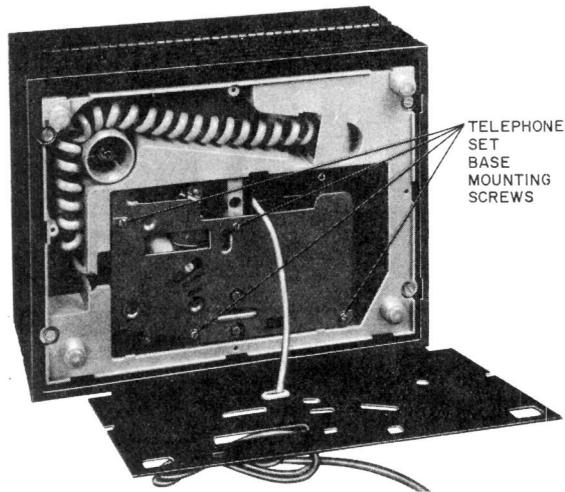
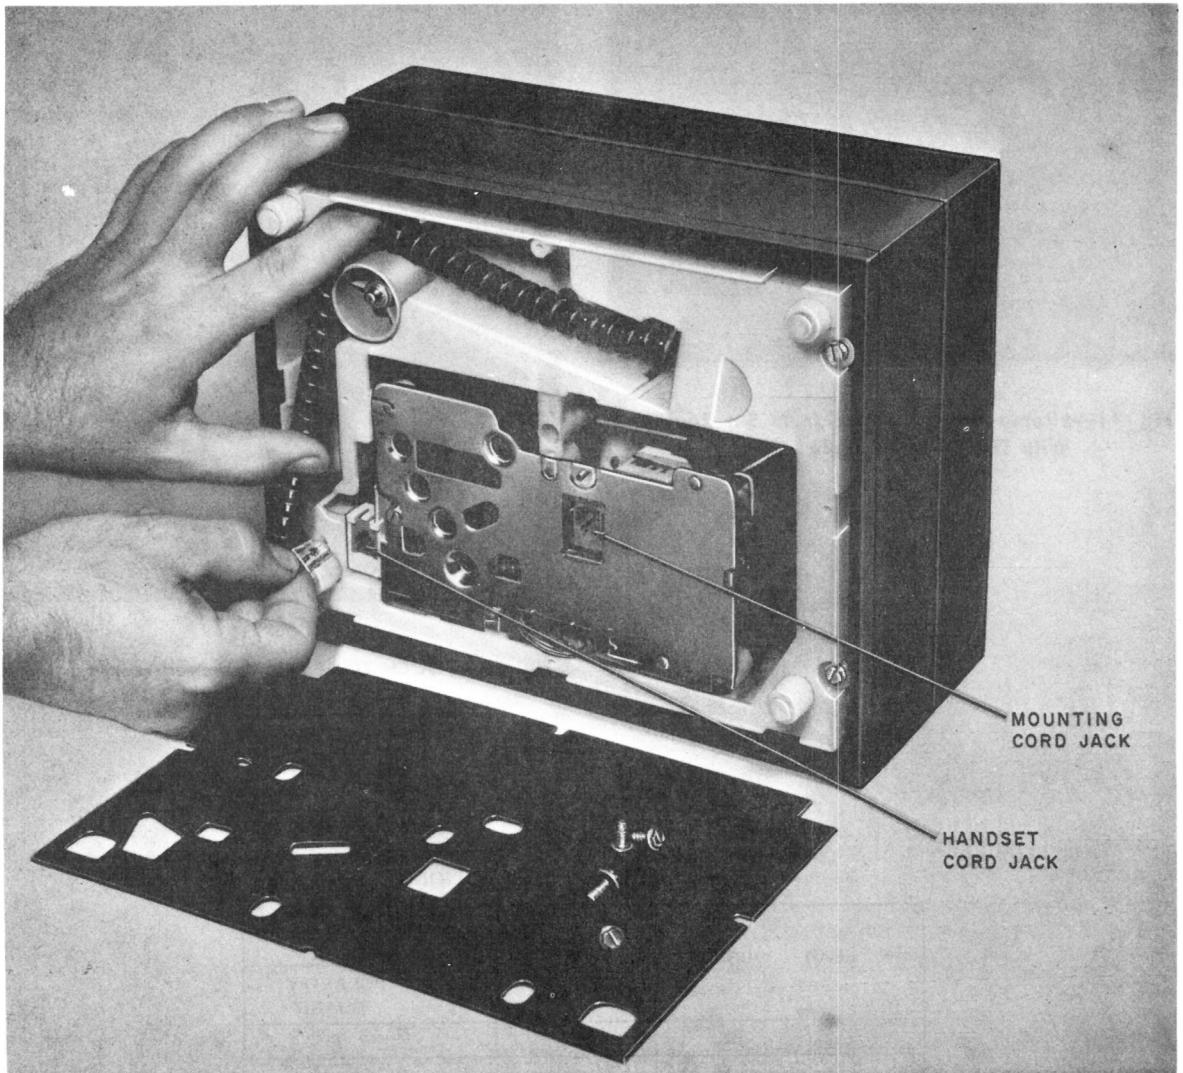
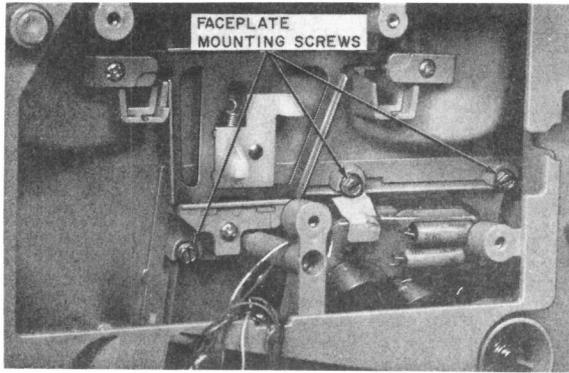

Fig. 8—881A100 or 2881A100 Telephone Set With
Fig. 10—881B100 or 2881B100 Telephone Set With Bottom Cover Removed
Fig. 11—Removing Faceplate from Set Equipped With TOUCH-TONE Dial
- (2) Disconnect base end of handset cord (Fig. 10).
- (3) Pull cord, attached to the handset, out through the top of the telephone set base.
- (4) Disconnect the cord from the handset.
- (5) Remove four telephone set base mounting screws and withdraw the base (Fig. 8).
(7) TOUCH-TONE dial equipped sets only—remove three faceplate mounting screws as shown in Fig. 10 and remove the faceplate. Remove two dial mounting screws and remove the TOUCH-TONE dial (Fig. 11).
(8) TOUCH-TONE dial equipped sets only—replace faceplate (Fig. 10).